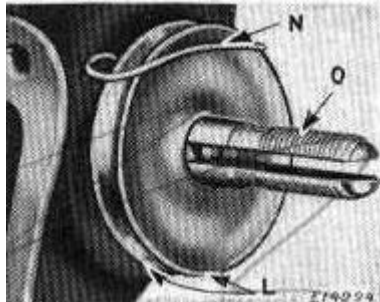

Fig. 1c
Place the two tension discs (L, Fig.1c) with their flat thread-bearing sides together in position on the stud (O) and with the loop (N) of the thread take-up spring straddling the discs (L) as shown in Fig.1c.